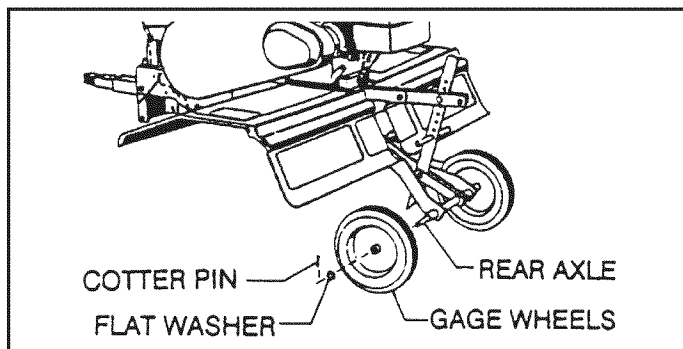

FIGURE 2
- Assemble gauge wheels onto rear axle with the extended end of the hub facing inward. Secure with the flat washers and cotter pins that were removed from the axle during unpacking. (See Figure 2.)